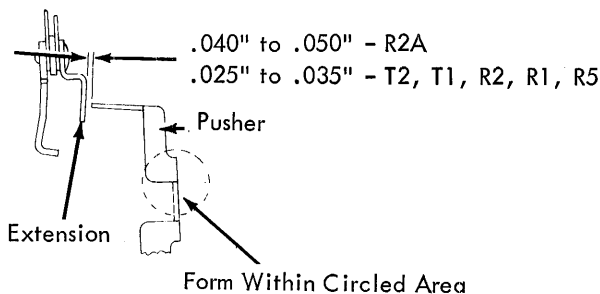

FIGURE 25A. Latch Pushers
- When removal of the Latch Pusher Assembly is required, scribe (for reinstallation reference) the pusher plate to power frame relationship. If the original relationship can be maintained, the adjustments will not have been destroyed by removal. In case of loss of relationship, position the pusher plate as nearly as possible for the prescribed latch to pusher clearances (Fig. 25A) and proceed with the following adjustments.
- Latch Pushers T2, T1, R2, R1, & R5 (Fig. 25A) - Form to clear their respective latch extensions by .025" to .035".
- Latch Pusher, R2A (Fig. 25A) - Form to clear latch extension by .040" to .050".